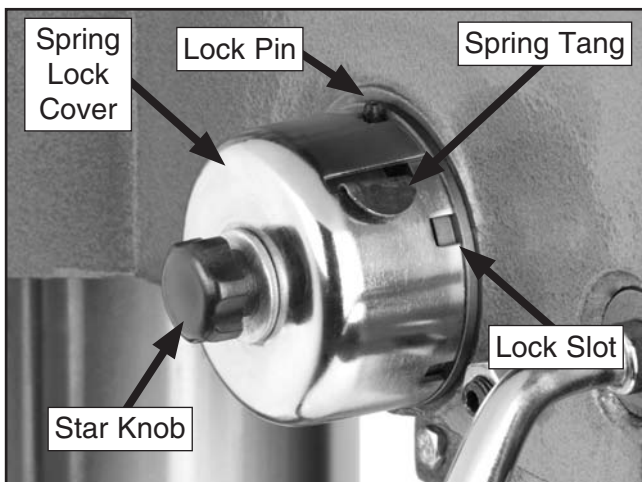

Figure 54. Spring lock cover identification.
2. Wipe any oily substances from the spring lock cover so it does not slip when you hold it. Refer to **Figure 54** for the spring lock cover identification.